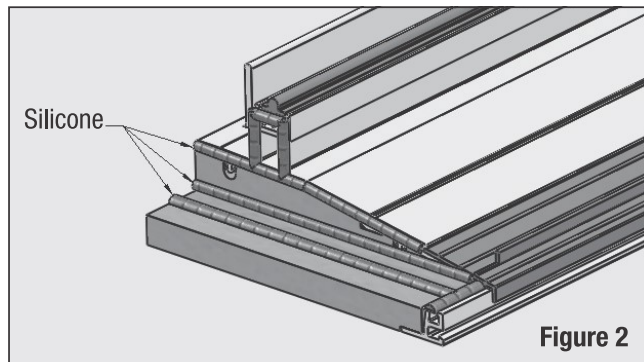

Figure 2
- 2 Seal the edges of the bottom rail at the wood and PVC junction. Apply a bead of sealant approx. 1/4" in diameter on the bottom rail mortises. See **Figure 2**.